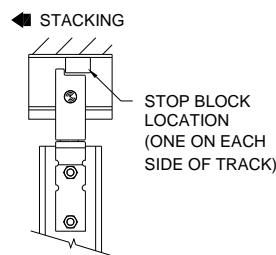

Fig. 6-2
- **A stopping channel:** Lock the closing channel and pull the stopping channel toward the stacking end until horizontal chain is taut. Hold the channel in place with vice grips. Mark and drill track for stop blocks placement as shown in Fig. 6-2, mount the stop blocks, then mark and drill the drop bolt hole location.